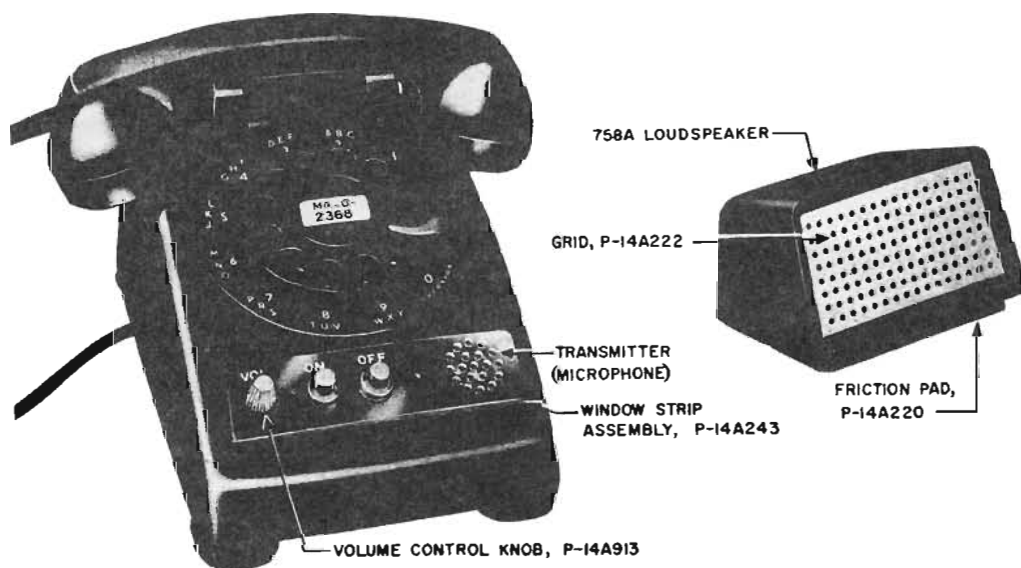

Fig. 1 — Speakerphone Components, Microphone in Base of Set (595-type Telephone Set)
2.03 The 592-type telephone set shown in Fig. 1 has the same general appearance as the 500-type key telephone set. It contains:
2.05 The 758A loudspeaker (Fig. 1 and 2) is used to provide loudspeaker facilities for the distant talking set. It consists of:
3.06 The following is a list of piece parts in addition to those shown in Fig. 1 and 2.